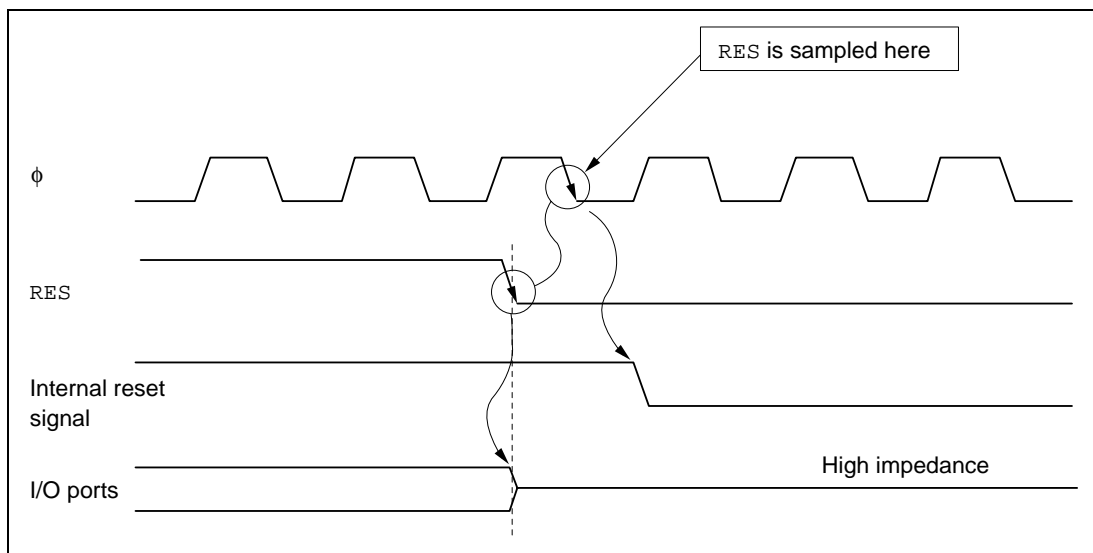

Figure G-5 Resetting of I/O Ports (Mode 7)
(5) Mode 7: Figure G-5 is a timing diagram for the case in which $\overline{\text{RES}}$ goes low in mode 7. As soon as $\overline{\text{RES}}$ goes low, all ports are initialized to the input state.